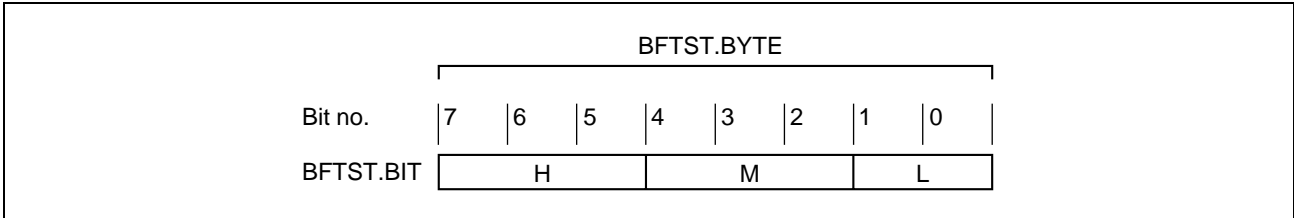

Figure 2 BFTST Structure
- (1) To confirm BFST instruction operation, a 1-byte RAM area (BFTST) is divided into three as a structure. The BFTST structure is shown in figure 2.